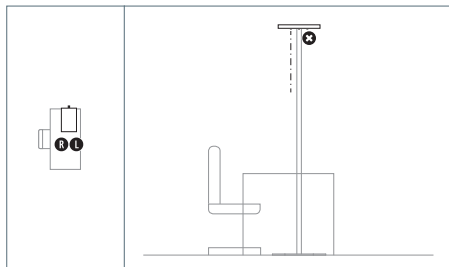

Fig. 8: Aligning sensors for workplace occupancy: 1 workplace.
2. Use the LIGHT ADMIN app to deactivate the sensor that is further away from the front edge of the desk, see Fig. 8.